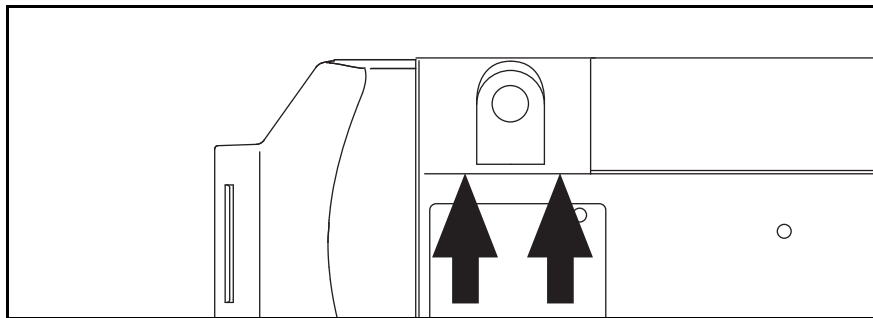

Figure 24. To remove the control unit cover
- Raise the control unit cover on both sides using a blunt blade (Figure 24 arrows).